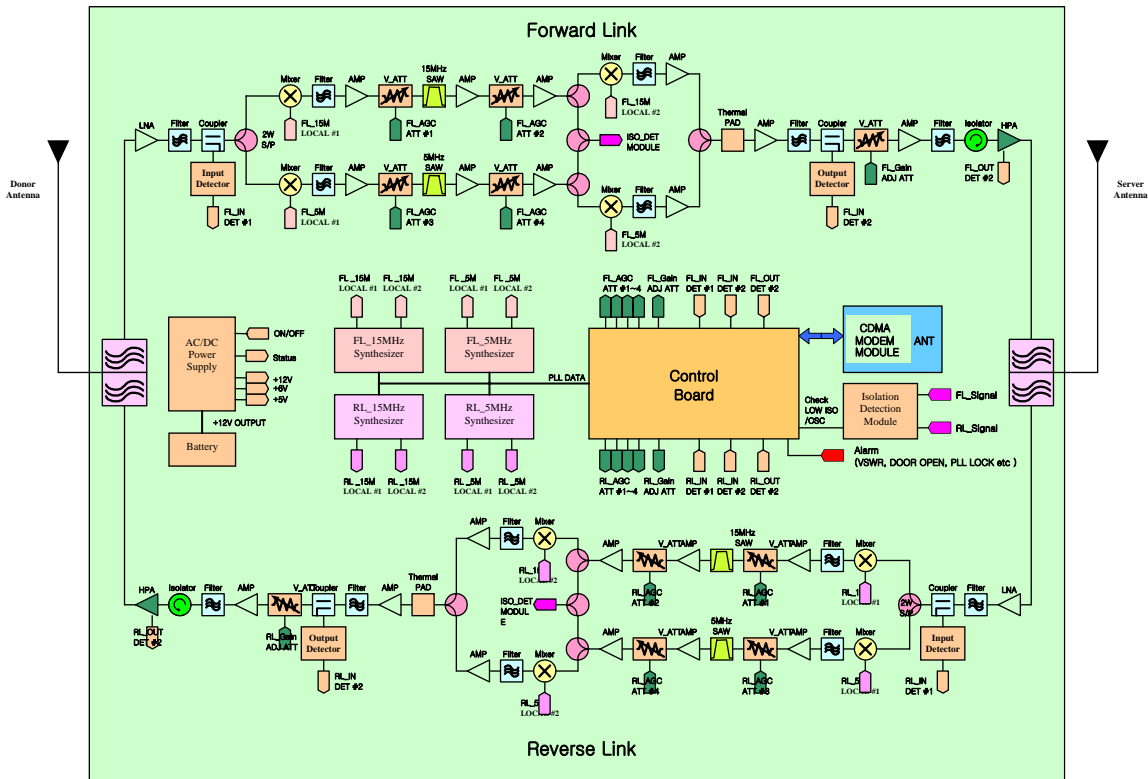

Figure 1: Epoch-S02 Block Diagram
Figure 1 describes the operation of the Epoch-S02 repeater. The donor antenna points to and receives the signal from the BTS (base station) and feeds it to the downlink (DL) path of the repeater. The DL signal is amplified and radiated by the server antenna. On the other side, the uplink (UL) signal from the MS (mobile station) is received by the server antenna, amplified by the repeater and reradiated by the donor antenna to the BTS.